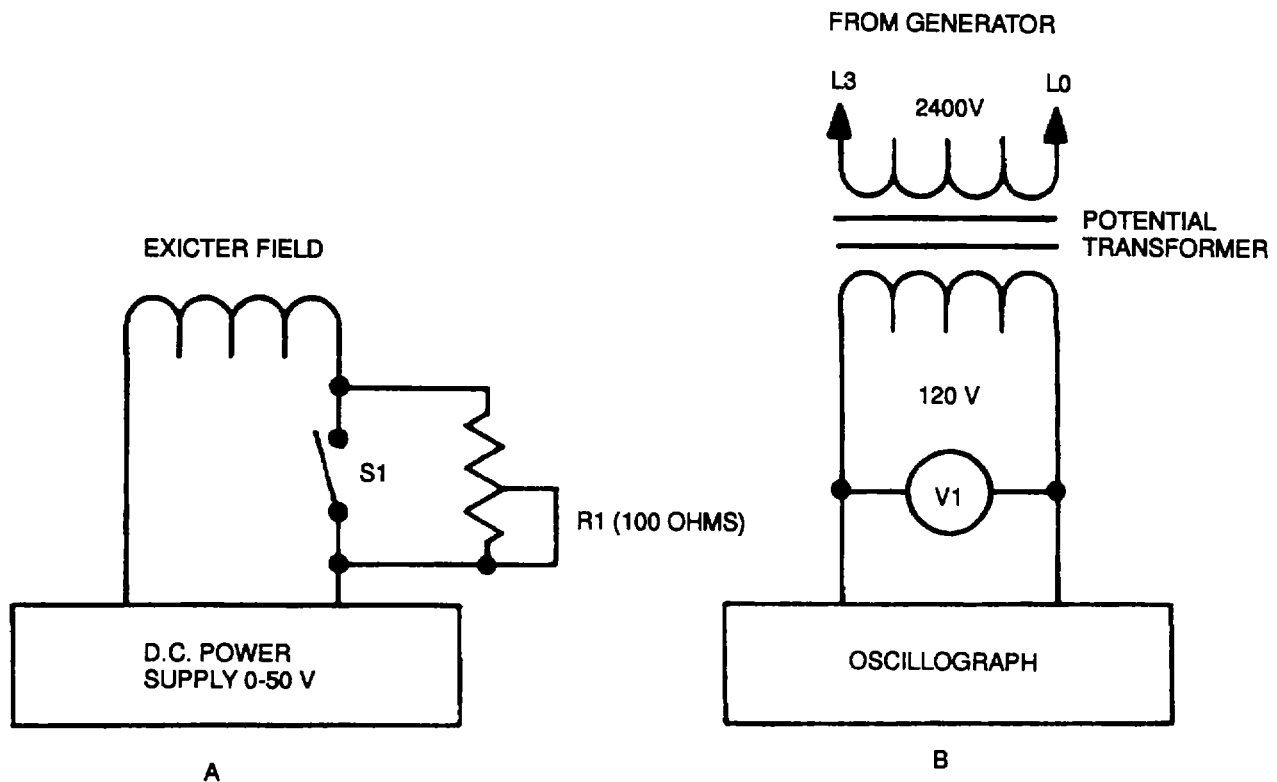

Figure 12-8. Voltage Divider Transformer Network
- b. Apparatus. Instrumentation for measuring voltage shall be as described and illustrated in Figure 12-8.
- (1) Preparation for bench test.
- (a) Locate and disconnect the input circuit to the input terminals of the overvoltage protective sensing circuit, and connect the apparatus in accordance with Figure 12-8.
- (2) Test.
- (a) Close S1 (A, Figure 12-8), and start, operate the set at rated frequency and no load, and adjust R1 for 2400/4160 V.
- (d) With the oscillograph recording and the circuit breaker closed, adjust R1 (A) until the circuit breaker trips on overvoltage.
- (1) Close S1 (A, Figure 12-8), and start and operate the set at rated frequency and no load, and adjust R1 for 2400/4160 V.
- (2) Set the oscillograph chart speed such that the individual waveform peaks are clearly visible. Set the timing lines to a minimum of 0.01 second per line or use a 60 Hz timing trace. With S1 open, adjust the trace peak-to-peak amplitude to a minimum of 1 inch (25.4 mm).
- (3) With the set operating and the circuit breaker and S1 open, read and record both voltmeter readings.
- (4) Close S1 and circuit breaker.
- (5) With the oscillograph recording, open S1, and adjust R1 until the circuit breaker trips on undervoltage.
- (6) Check and record the indication of the undervoltage malfunction indicator.
- (7) The voltage difference between S1 open and S1 closed is the difference between the rated voltage and undervoltage.
- (8) Repeat steps (2) through (7), above, two additional times.